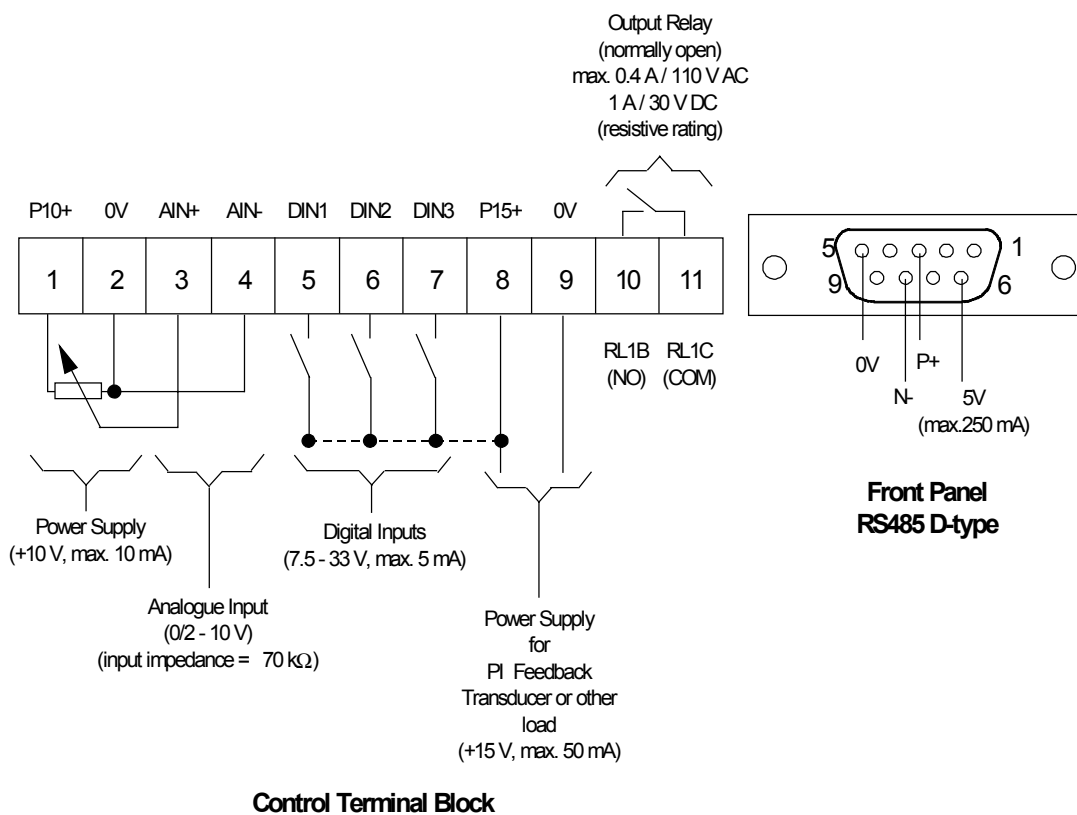
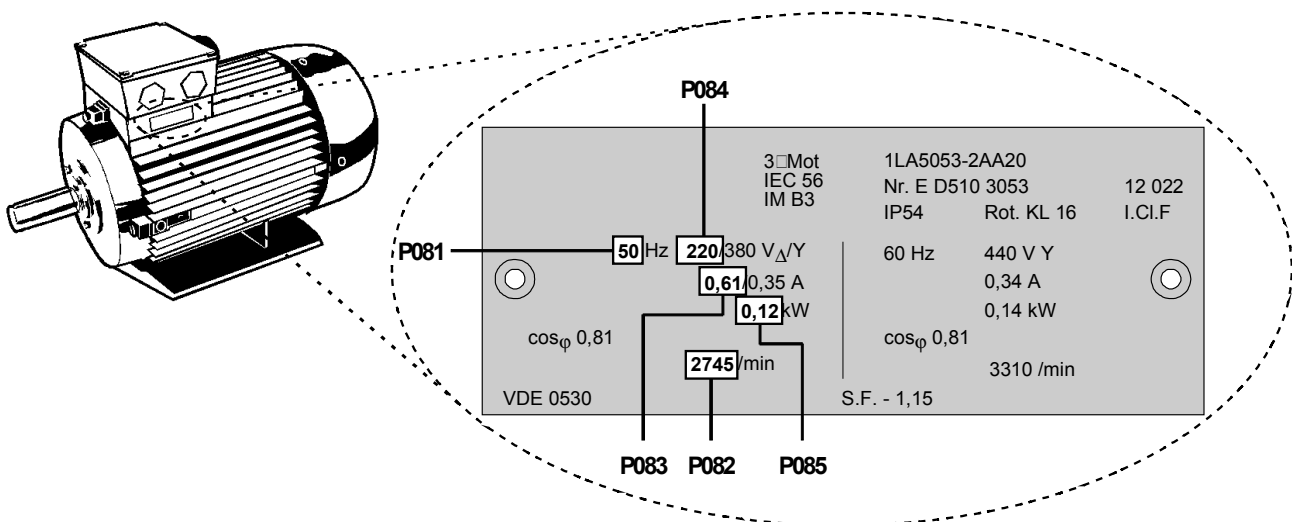

Figure 2.2.4: Control Connections
Figure 3.2.1: Typical Motor Rating Plate Example
15. Connect the control leads as shown in *Figures 2.2.4 and 2.2.6*, *Section 2.2.4 and 2.2.6*.
- (1) The inverter does not have a main power switch and is live when the mains supply is connected. It waits, with the output disabled, until the RUN button is pressed or for the presence of a digital ON signal at terminal 5 (rotate right) or terminal 6 (rotate left) - see *parameters P051 - P053*.
- (2) If output frequency is selected to be displayed (P001 = 0), the corresponding setpoint is displayed approximately every 1.5 seconds while the inverter is stopped.
- (3) The inverter is programmed at the factory for standard applications on Siemens four-pole standard motors. When using other motors it is necessary to enter the specifications from the motor's rating plate into parameters P081 to P085 (see *Figure 3.2.1*). **Note: Access to these parameters is not possible unless P009 has been set to 002 or 003.**
- (1) Connect control terminal 5 to terminal 8 via a simple on/off switch. This sets up the motor for clockwise rotation (default).
- (2) Apply mains power to the inverter. Set parameter P009 to 002 or 003 to enable all parameters to be adjusted.
- (3) Check that parameter P006 is set to 000 to specify digital setpoint.
- (4) Set parameter P007 to 000 to specify digital input (i.e. DIN1 (terminal 5) in this case) and disable the front panel controls.
- (5) Set parameter P005 to the desired frequency setpoint.
- (6) Set parameters P081 to P085 in accordance with the rating plate on the motor (*see Figure 3.2.1*).
- (7) Set the external on/off switch to ON. The inverter will now drive the motor at the frequency set by P005.
- (2) Connect a 4.7 k $\Omega$  potentiometer to the control terminals as shown in Figure 2.2.4 or connect pin 2 (0V) to pin 4 and a 0 - 10 V signal between pin 2 (0V) and pin 3 (AIN+).
- (3) Apply mains power to the inverter. Set parameter P009 to 002 or 003 to enable all parameters to be adjusted.
- (4) Set parameter P006 to 001 to specify analogue setpoint.
- (5) Set parameter P007 to 000 to specify digital input (i.e. DIN1 (terminal 5) in this case) and disable the front panel controls.
- (6) Set parameters P021 and P022 to specify the minimum and maximum output frequency settings.
- (7) Set parameters P081 to P085 in accordance with the rating plate on the motor (*see Figure 3.2.1*).
- (8) Set the external on/off switch to ON. Turn the potentiometer (or adjust the analogue control voltage) until the desired frequency is displayed on the inverter.